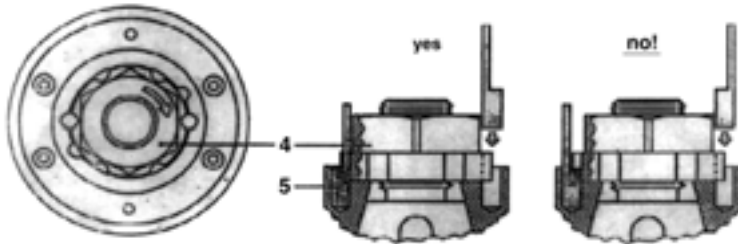

Fig. 2 (detail)
- C)** Insert the central cone gear (6) into the central hub (1) as shown in figure 2. The cone gear has a block between two teeth, this is the “X” mark. It will fit into the central hub at only one place, where there is a gap in the gear teeth.
- D)** Fill the two halves of the spinner (7) with grease. We recommend Max-Prop grease. Close the two halves around the hub and tighten down the screws.